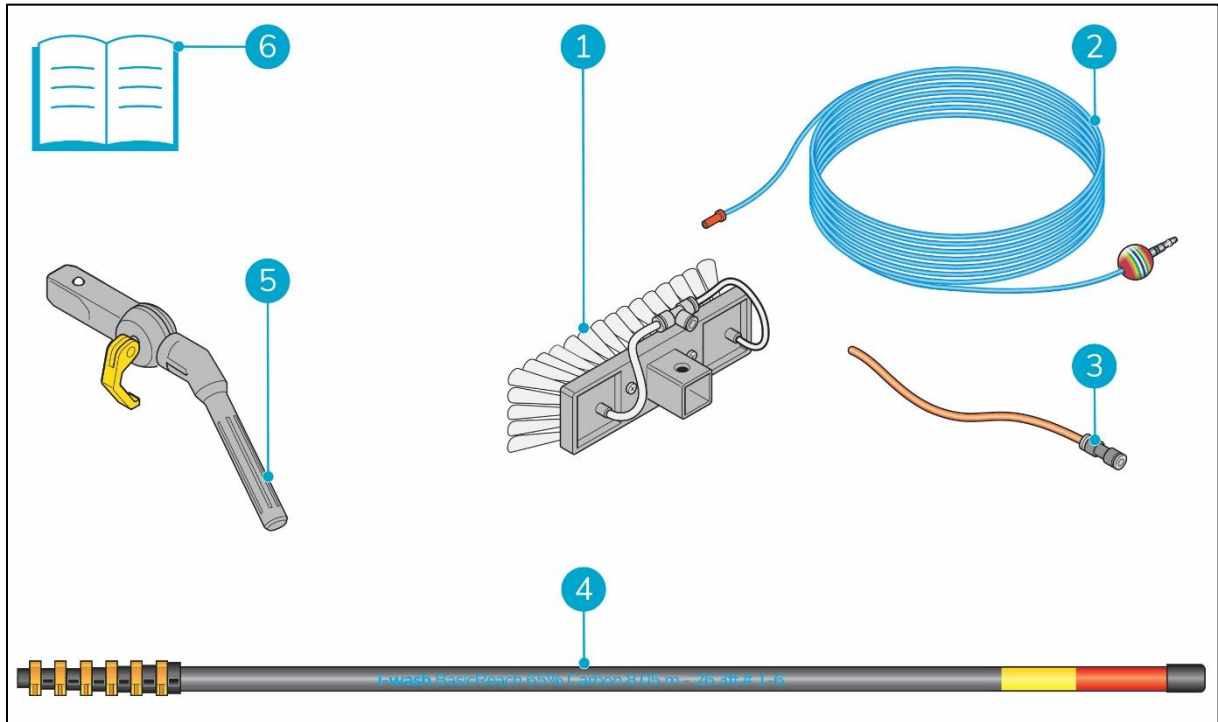

Figure 6
In this section the unboxing of the i-wash® Basic Reach (Figure 6, pos 4) is described. The contents of the box for the i-wash® Pro Reach are identical to that of the i-wash Basic Reach.